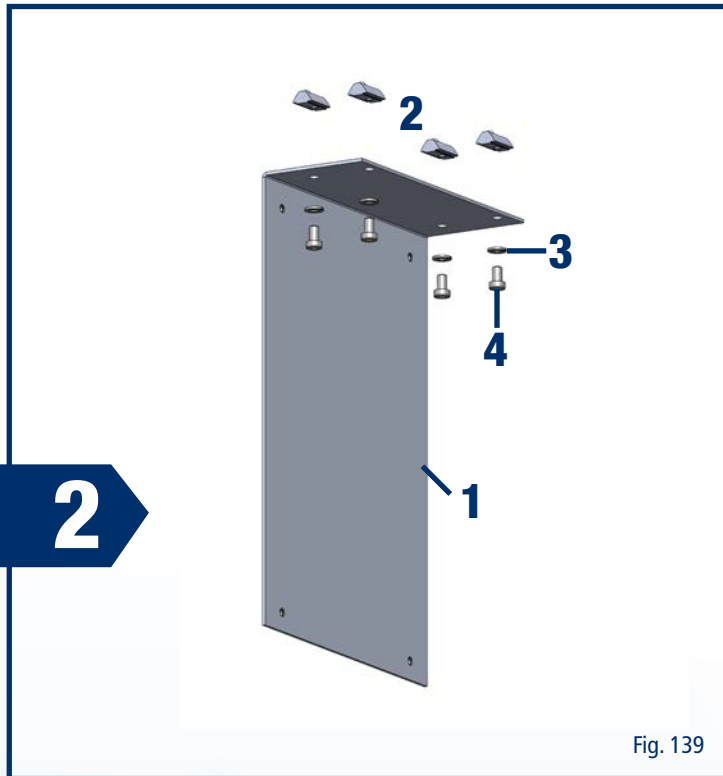

Fig. 139
- 1x retaining bracket (1)
- 4x T-nuts (2)
- 4x spring washers (3)
- 4x cheese head screws M4 (4)
The retaining bracket (Fig. 139, item 1) for the control box should be installed in the centre of the bottom edge of the profile (80x40x880, Fig. 140, item A). This requires inserting the T-nuts (Fig. 139, item 2) into the profile grooves as shown in Fig. 140.
The cheese head screws (Fig. 139, item 4) with spring washer (Fig. 139, item 3) are used to install the retaining bracket (Fig. 139, item 1) on the profile 80x40x880 (Fig. 140, item A).